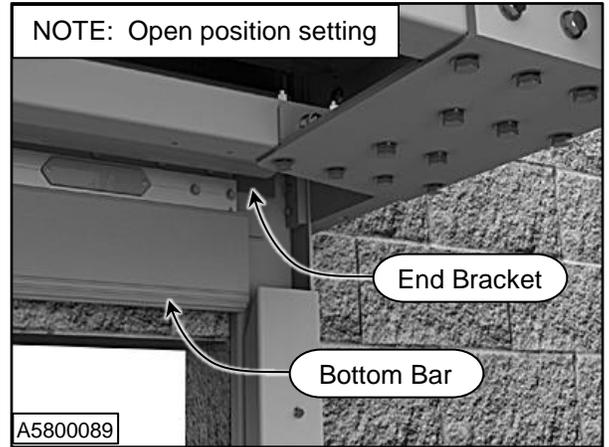

Figure 27
1. Open the door using jog mode. Move the door panel until the bottom bar is set as shown in Figure 27.